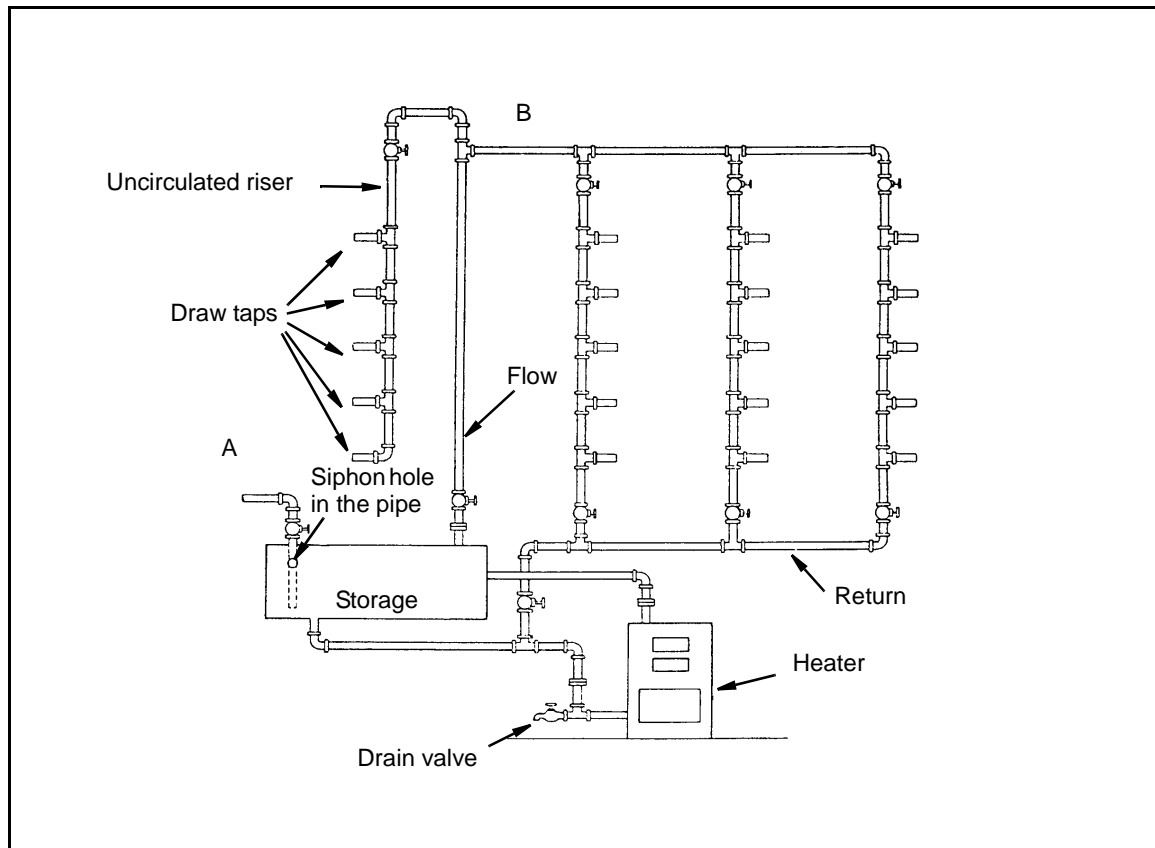

Figure 1-4. Circulating Hot-Water System (Two-Pipe)
1-48. To overcome this time lag, use a two-pipe, circulating-water supply system (*Figure 1-4*). Hot water passes from the water heater through the main fixture supply risers and returns through a line to the water heater. This looped system circulates the hot water at all times. Warm water tends to rise and cold water tends to fall, creating circulation. The water within the loop is kept at a high temperature. When a tap is opened, hot water flows from the hot-water supply riser into the branch and out of the tap. The cold-water filler within the hot-water storage tank (water heater) has a siphon hole near the top of the tank. If reduced pressure occurs at point A, the siphon hole allows air to enter the cold-water filler. This breaks the vacuum and prevents back siphonage of hot water into the cold-water distribution system.
1-50. This circulating supply system (*Figure 1-4*) is an overhead-feed and gravity-return system and is likely to become air-locked. An air lock prevents circulation of the hot water. Since air collects at the highest point (B) of the distribution piping, the most practical way to relieve the air lock is to connect an uncirculated riser to the line at that point. The air lock is relieved when a fixture on the uncirculated riser is used.